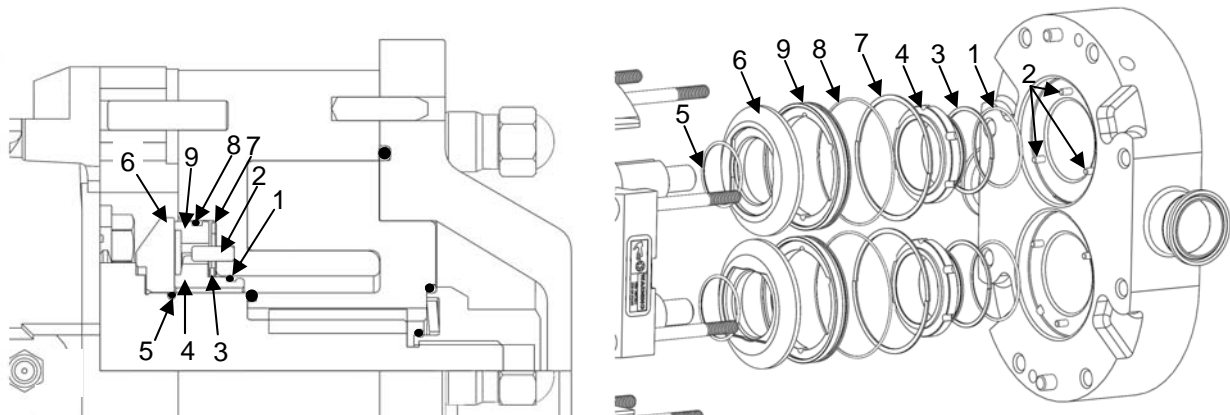

Figure 28: Double Mechanical Seal
- 1) Remove both the inner and outer stationary seals from the pump body (Figure 28, items 4 and 9).